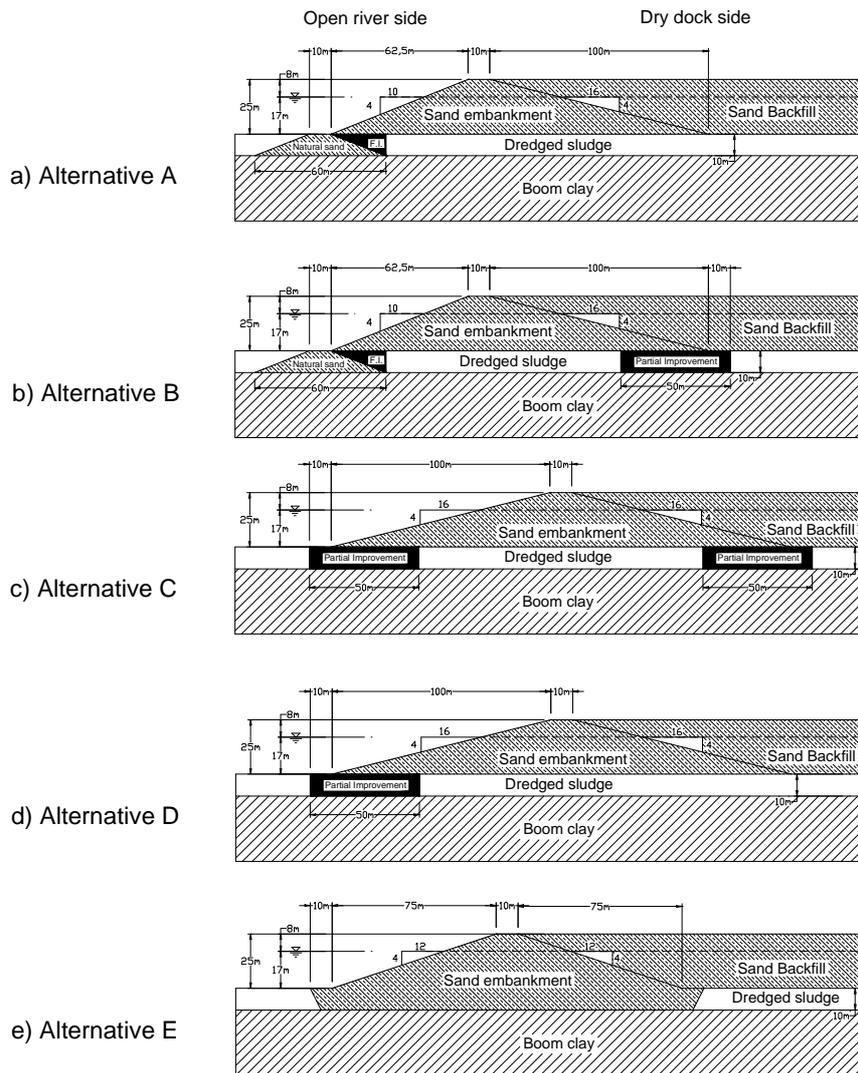

Fig. 7.1. Previously studied design options
Several alternatives have been evaluated. More details on these alternatives can be found elsewhere (Verástegui, 2001). Figure 7.1 illustrates a scheme of each of the options already studied:
- Alternative E: All the soft material is removed and the sand embankment is directly founded on the Boom clay (figure 7.1). Technically this could be qualified as a good solution, however, one must take into account that the removal and new disposal of huge volumes of dredged material may be a serious environmental issue.